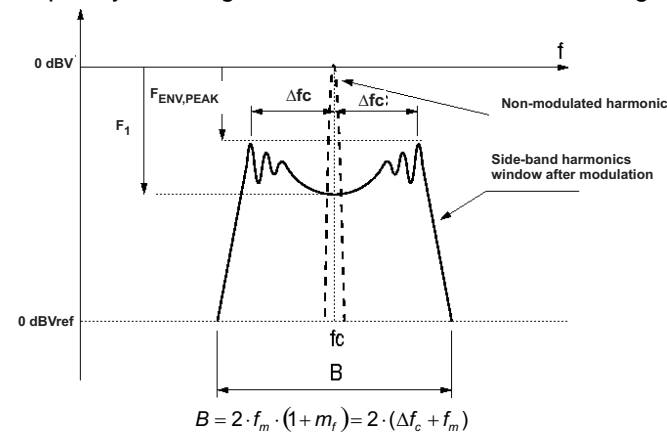
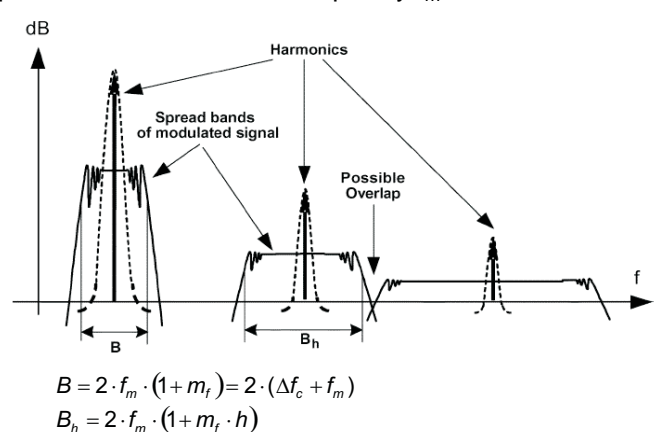

图 15. Spectrum of a Frequency Modulated Sin. Wave with Sinusoidal Variation in Time
图 16. Spread Bands of Harmonics in Modulated Square Signals (1)
(1) Spectrum illustrations and formulae (图 15 and 图 16) copyright IEEE TRANSACTIONS ON ELECTROMAGNETIC COMPATIBILITY, VOL. 47, NO.3, AUGUST 2005.